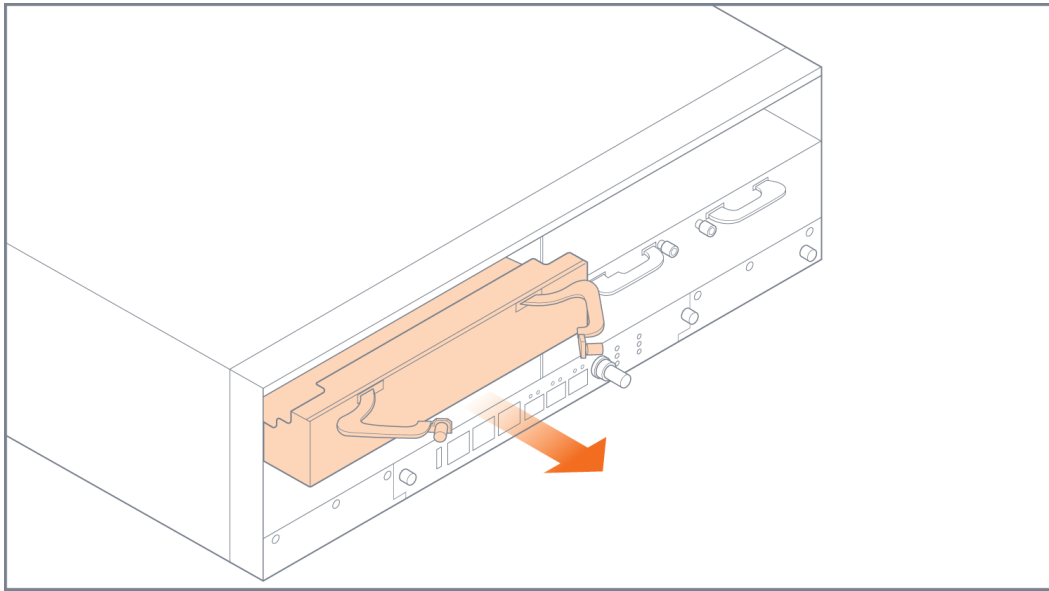

Figure 9 Filler Panel Removal
6. Remove a filler panel as shown in Figure 9 Filler Panel Removal.